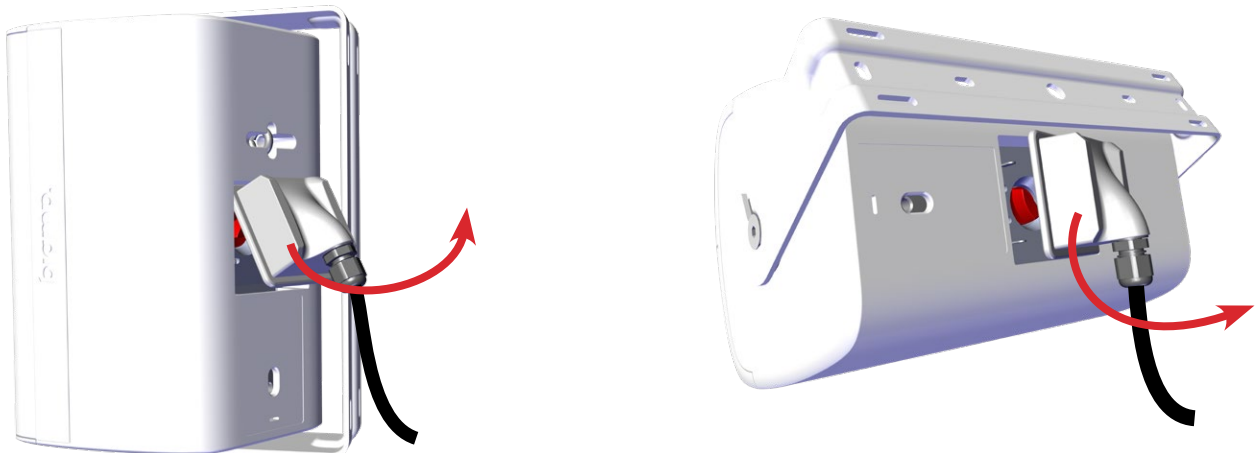

Figure 15b. Pull the ClickPlug away from the latch side. Do **NOT** use a tool to remove it as you will mar and/or deform the plastic.
3. The ClickPlug must be pulled away from the latch side first (Figure 15b). Do **NOT** use a tool to remove it as you will mar and/or deform the plastic.